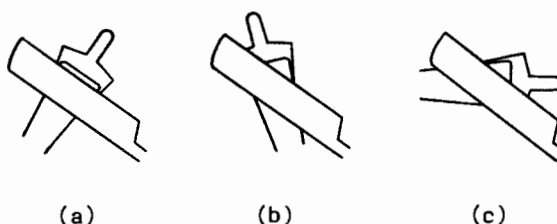

Figure 7
8. Always turn the reed rather than the knife when scraping the tip section of the reed. See Figures 7(a), 7(b) and 7(c).
Note that a normal holding mandrel won't work comfortably when working on the tip section in this fashion, especially as in Figure 7(c). Remove the mandrel first, then turn the reed to the right or left holding the reed in the finger tips. It is easier to duplicate the same taper or scraping technique if the knife is held in the same place and the reed changes position. Also rotate the reed right or left when scraping the channels. Often what happens is the right side of the reed is scraped thinner because it is easier to scrape on the right.